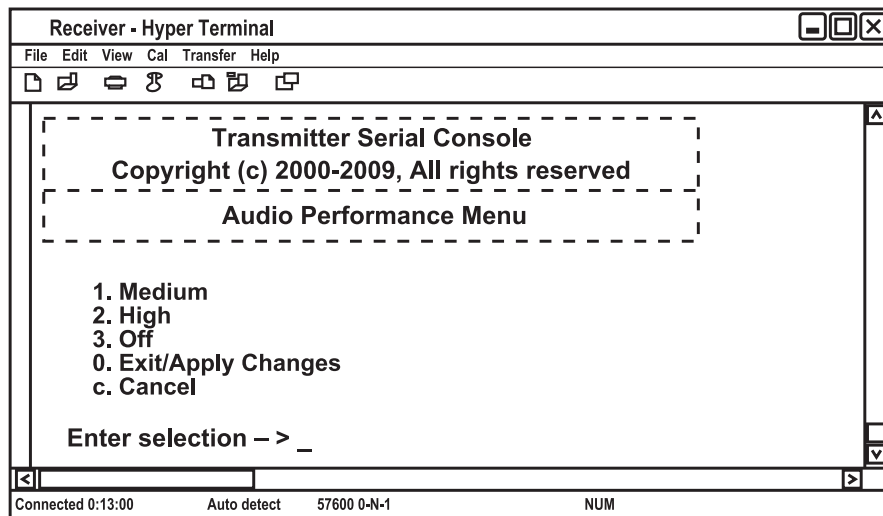

Figure 4-38. Transmitter Audio Performance Menu.
2. Press “8” to access the Console Settings Menu and press “Enter.” The current audio performance setting is displayed beside menu item 3.
3. Press “3” to access the Audio Performance Menu and press “Enter.” The Audio Performance Menu shows you the audio settings that you can choose from. See Figure 4-38.